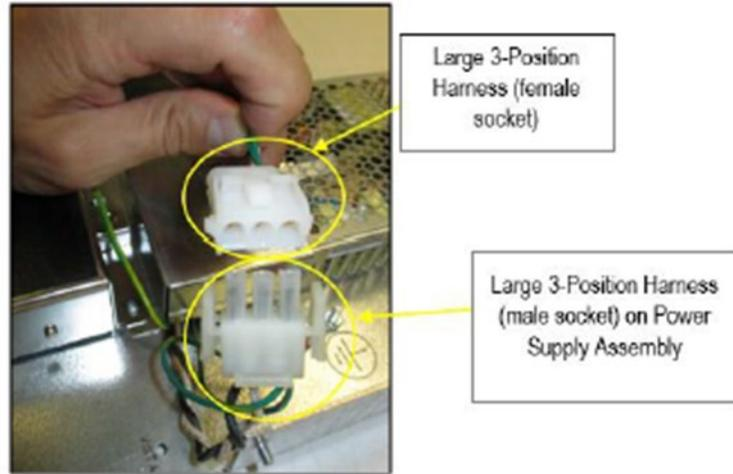

Figure 101
9. Remove the Large 3-Position Harness (female socket) of the A/C Wiring Assembly from the Large 3-Position Harness (male socket) pigtail that is present on the Non Invenco Link Power Supply Assembly. See Figure 101